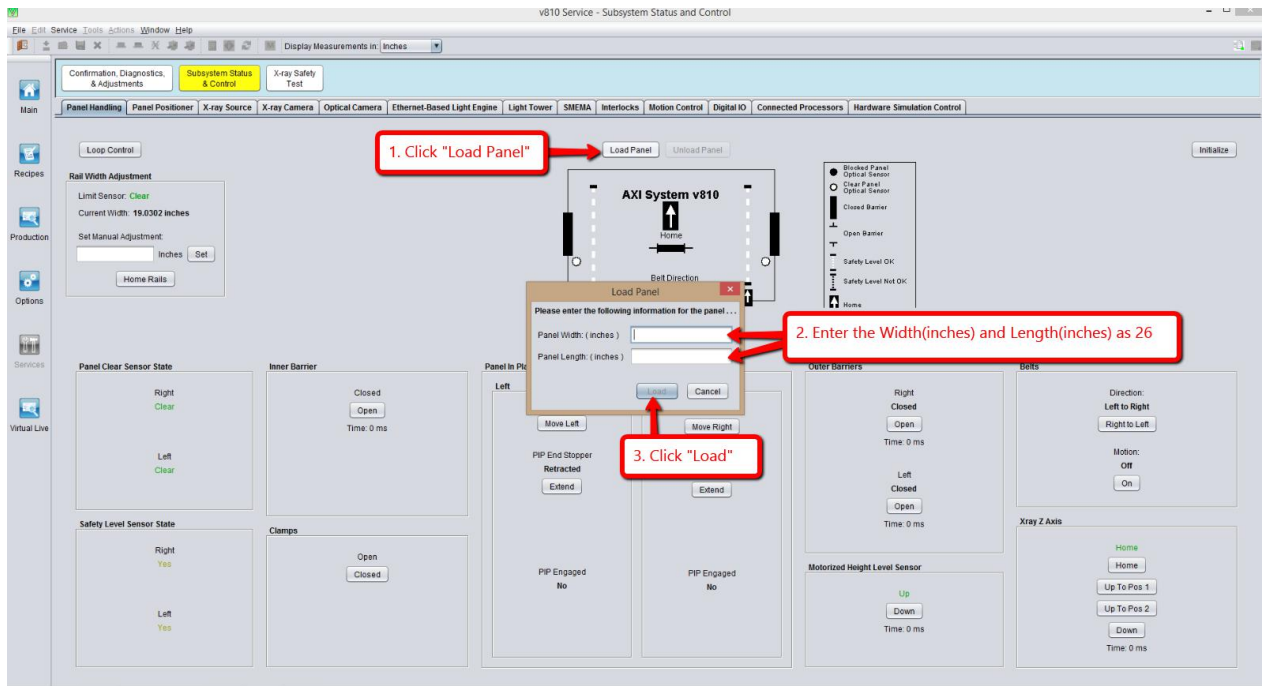

Figure 3 Panel Handling (Loading method)
- Click "Load Panel", Enter the width & length as 26 inch as Figure 3.
Click "Load" as Figure 3.